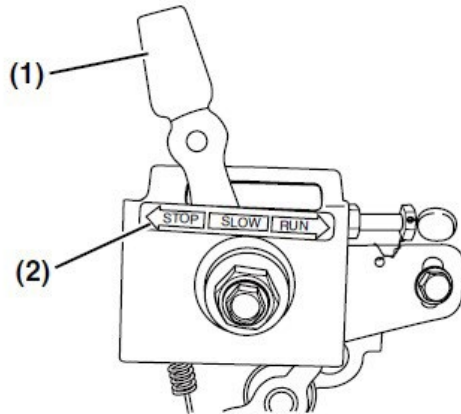

Figure 17
1. If your engine speed control is similar to **Figure 17** slide the engine speed control lever (**Figure 17, (1)**) to the STOP position (**Figure 17, (2)**).